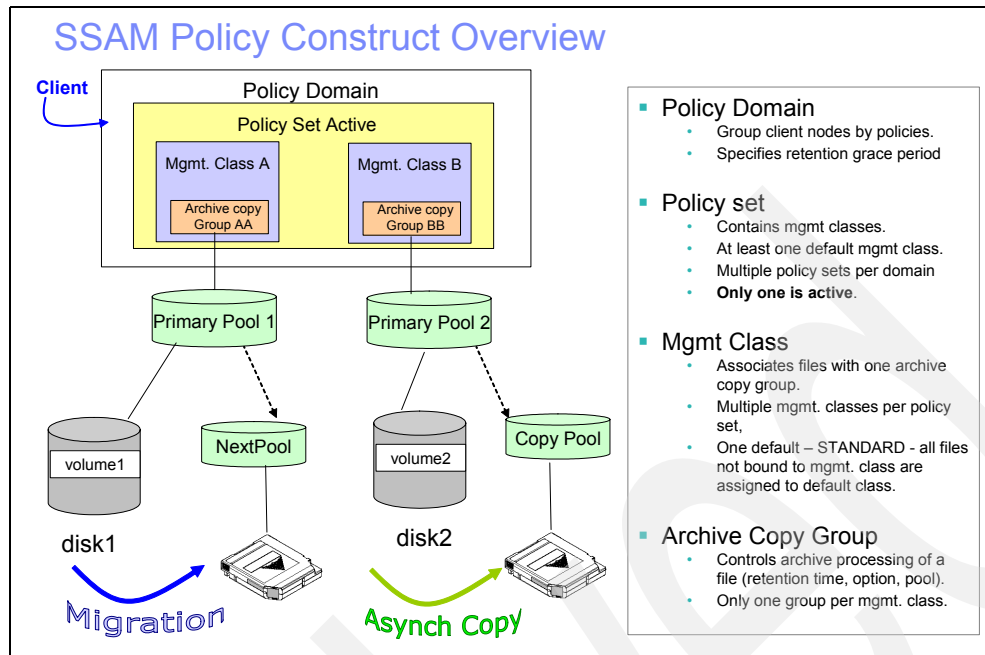

Figure 5-7 Example of the policy structure for archive
Figure 5-7 on page 169 summarizes the relationships among the physical device environment, SSAM storage and policy objects, and clients. The numbers in the following list correspond to the numbers in the figure.
**Note:** Figure 5-7 on page 169 shows an outline of the policy structure. We show all the steps necessary to create a valid policy in this chapter.